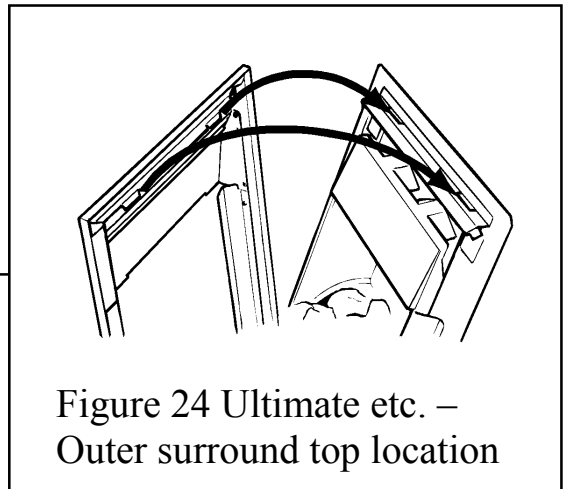

Figure 24 Ultimate etc. –
1. Pick up the outer surround. Locate the two lugs at the top of the front surround in the slots in the upper case support strip (See figure 24). Swing the bottom of the surround sides back against the convection box and lower the surround so that the lugs are fully seated in the slots in the convection box hood.